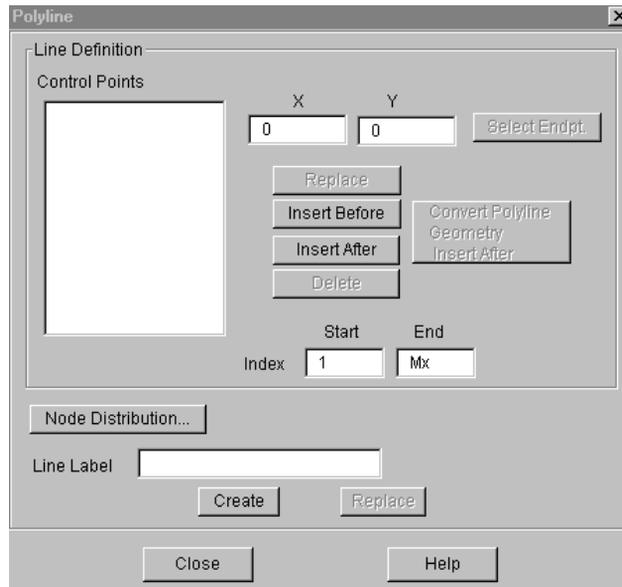

Figure 1-3. The Polyline dialog.
3. Now we will add a polyline to the JMin boundary. Call up the Polyline dialog by selecting the Create Polyline option from the Boundary menu. The Polyline dialog is shown in Figure 1-3.